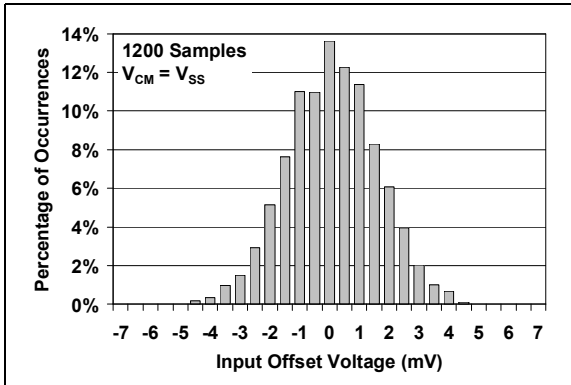

**FIGURE 1-3:** AC and DC Test Circuit for the Push-Pull Output Comparators.
**Electrical Specifications:** Unless otherwise indicated,  $V_{DD} = +1.6V$  to  $+5.5V$ ,  $V_{SS} = GND$ ,  $T_A = +25^{\circ}C$ ,  $V_{IN+} = V_{DD}/2$ ,  $V_{IN-} = V_{SS}$ , and  $R_L = 100\text{ k}\Omega$  to  $V_{DD}/2$  (Refer to Figure 1-3).
**Electrical Specifications:** Unless otherwise indicated,  $V_{DD} = +1.6V$  to  $+5.5V$ ,  $V_{SS} = GND$ ,  $T_A = +25^\circ C$ ,  $V_{IN+} = V_{DD}/2$ ,  $V_{IN-} = V_{SS}$ , and  $R_L = 100\text{ k}\Omega$  to  $V_{DD}/2$  (Refer to Figure 1-3).
**Electrical Specifications:** Unless otherwise indicated,  $V_{DD} = +1.6V$  to  $+5.5V$ ,  $V_{SS} = GND$ ,  $T_A = +25^\circ C$ ,  $V_{IN+} = V_{DD}/2$ , Step = 200 mV, Overdrive = 100 mV, and  $C_L = 36\text{ pF}$  (Refer to Figure 1-2 and Figure 1-3).
**Electrical Specifications:** Unless otherwise indicated,  $V_{DD} = +1.6V$  to  $+5.5V$ ,  $V_{SS} = GND$ ,  $T_A = +25^\circ C$ ,  $V_{IN+} = V_{DD}/2$ ,  $V_{IN-} = V_{SS}$ , and  $C_L = 36$  pF (Refer to Figure 1-1 and Figure 1-3).